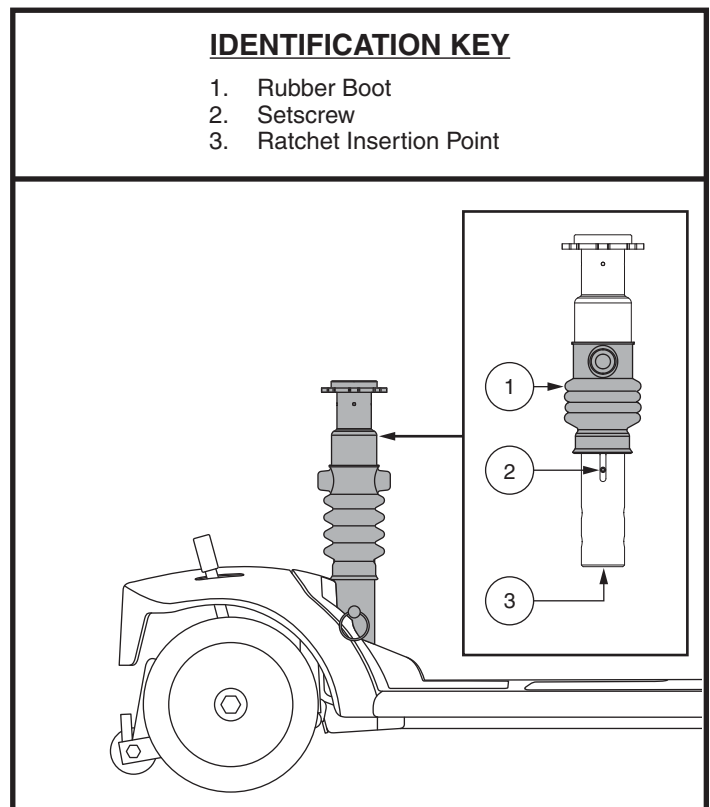

Figure 20. Seat Suspension Adjustment
The seat post acts as a shock absorber and can be adjusted for different degrees of ride comfort. Use the setscrews that are visible through the adjustment window on the side of the post as a guide when making adjustments. Slide the rubber boot towards the top of the post to expose the setscrews. **See figure 20.**
3. Insert a 13 mm socket with an extension into the bottom of the post. **See figure 20.**